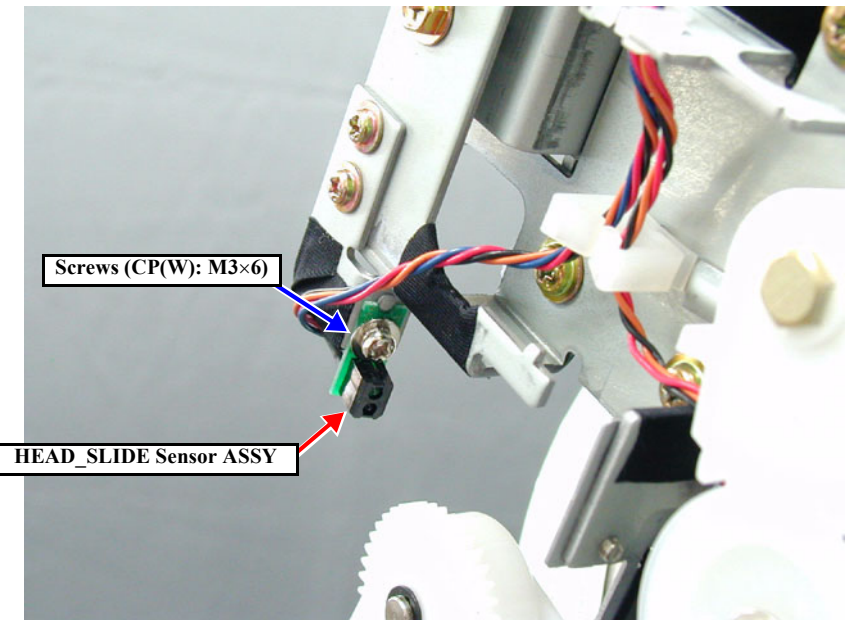

Figure 4-44. Removing the HEAD_SLIDE Sensor ASSY
5. Remove the one (CP(W): M3×6) screw securing the HEAD_SLIDE Sensor ASSY and remove the HEAD_SLIDE Sensor ASSY. (See *Figure 4-44*)